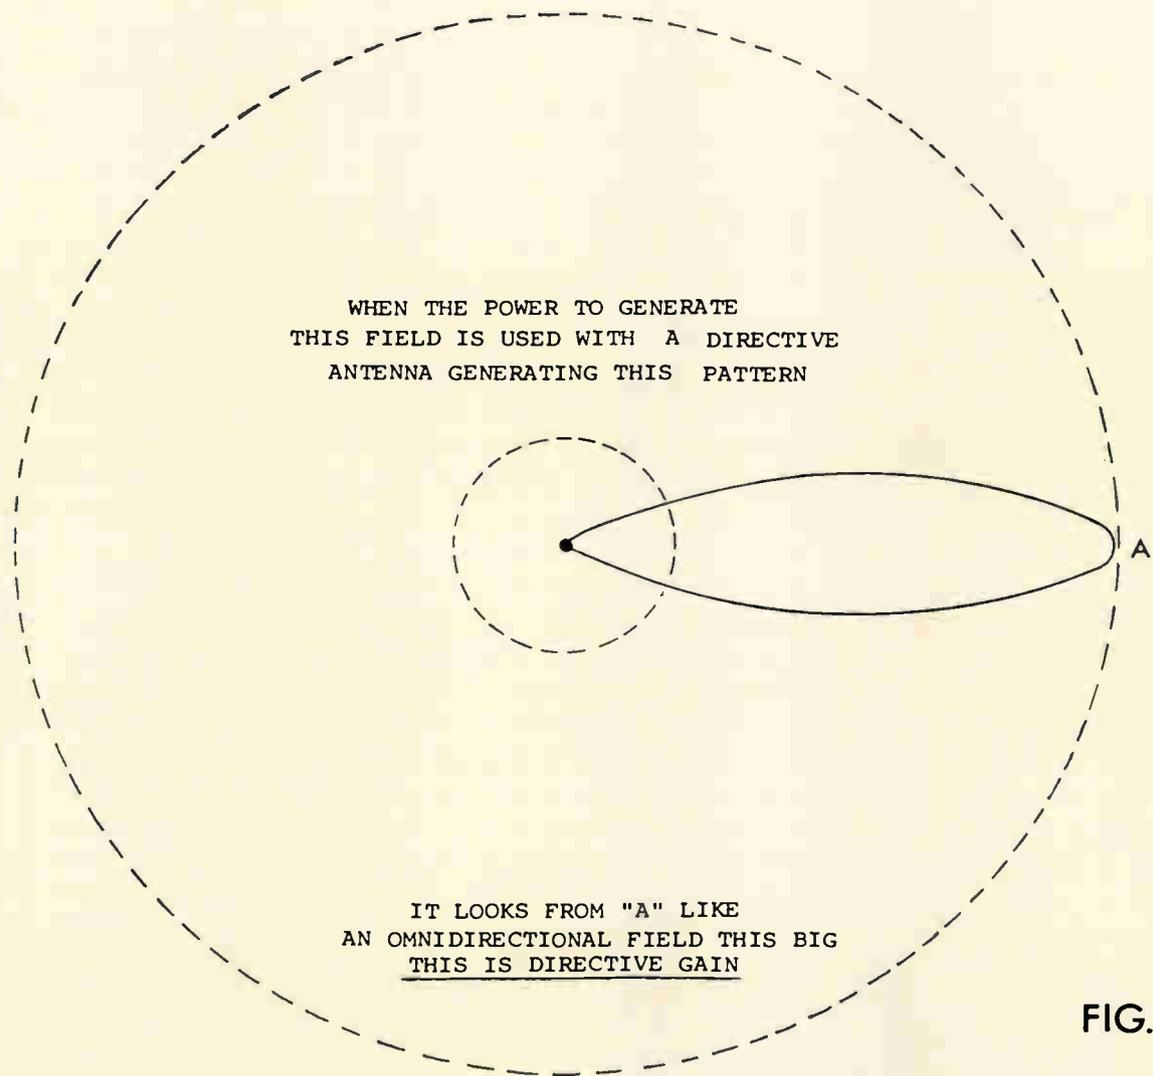

FIG. 1
**Antenna gain is a measure of the directive efficiency of the antenna when compared to a simple point source antenna (Figure 1).**